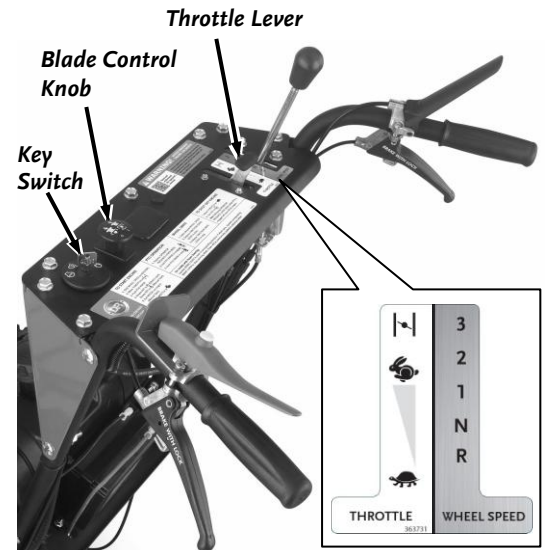

Figure 21
1. Stop the Blade by pushing down  on the Blade Control Knob (Figure 21).
1. Disengage the Blade by pushing DOWN  on the Blade Control Knob (Figure 21).
1. Stop the Blade by pushing down  on the PTO Knob (**Figure 21**)